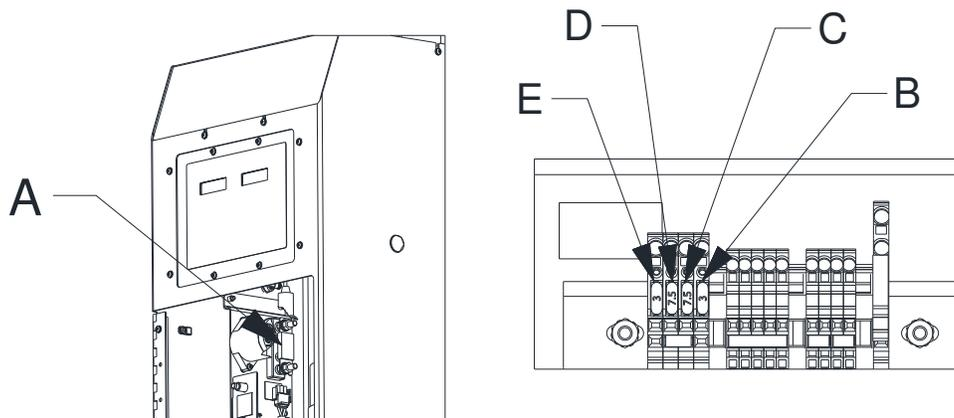

Figure 11. *Fuse Locations*
- Hydraulic power unit motor is protected by a 200 Amp ANL type fuse located inside the door mounted to a fuse block (see Figure 11, Item A).
- Down stop limit switch signal to control box is protected by a 3 Amp ATM blade type fuse. The fuse is installed in the furthest right slot of the fuse block located on the back side of the door (see Figure 11, Item B).
- The control box is protected by a 7.5 Amp ATM blade type fuse. The fuse is installed in the second slot from the right of the fuse block located on the back side of the door (See Figure 11, Item C).
- The down stop assembly circuit is protected by a 7.5 Amp ATM blade type fuse. The fuse is installed in the third slot from the right of the fuse block located on the back side of the door (See Figure 11, Item D).
- The control box battery monitoring circuit is protected by a 3 Amp ATM blade type fuse. The fuse is installed in the furthest left slot of the fuse block located on the back side of the door (See Figure 11, Item E).